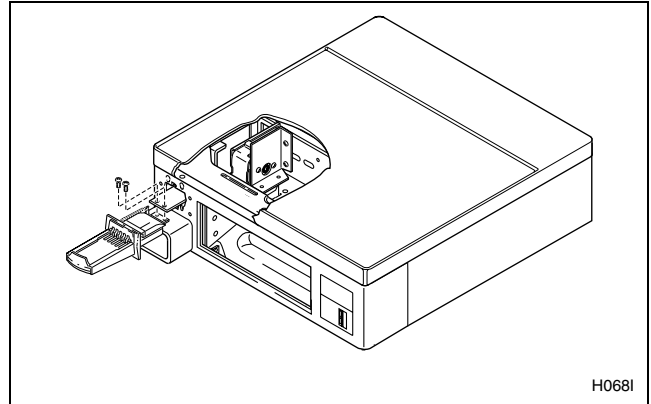

Figure 3
6. Assemble slide extension (No. 685593) to top side of coin slide using two screws and lockwashers (No. 03950), and tighten firmly. Refer to *Figure 3*.